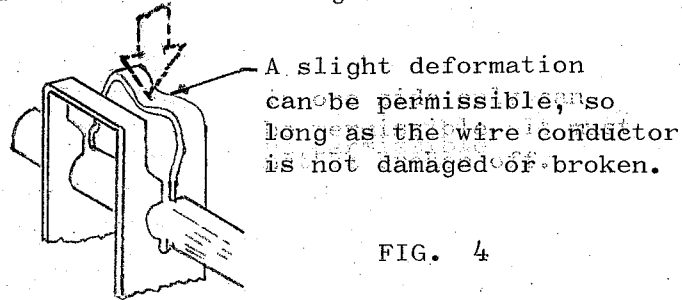

FIG. 4
4.2.3 Terminated contacts shall show no evidence of abnormalities such as breakage of wire at terminated area, deformation and damages that are detrimental to connector function. A slight bend down of contact upper frame in one side only can be permissible when not excessive and not being broken off. The permissible level of deformation is shown in Fig. 4.